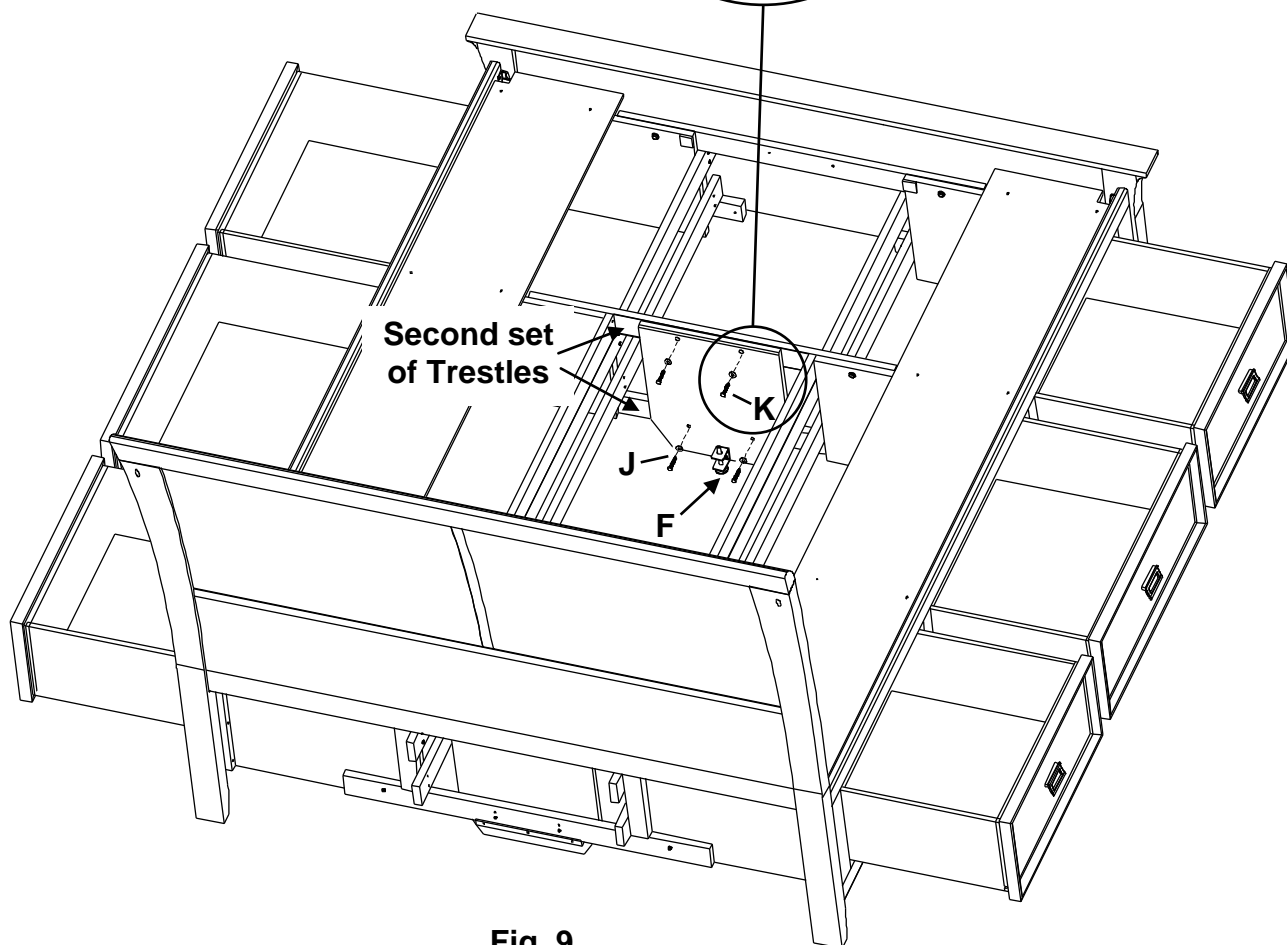

Fig. 9
Facing the Footboard, place an Assembled Foot (D) on the inside of the second set of Trestles and attach with four Washers (K) and four 1/4" x 1-3/4" Hex Bolts (J). See Figures 9 and 9a.